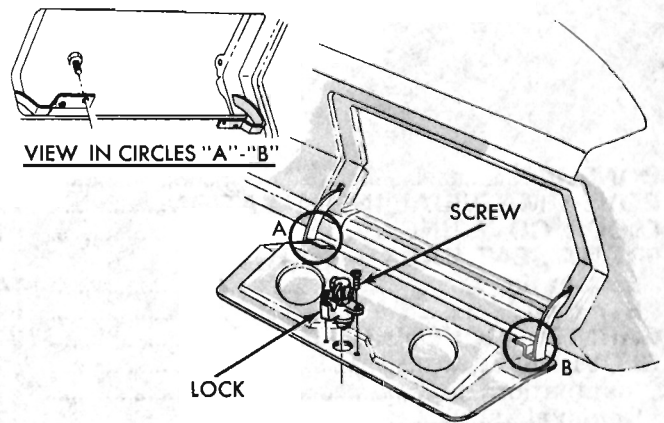

Fig. 4 - Glove Box Door - Dart
- (1) Remove glove box door (Fig. 4, 5, and 6).